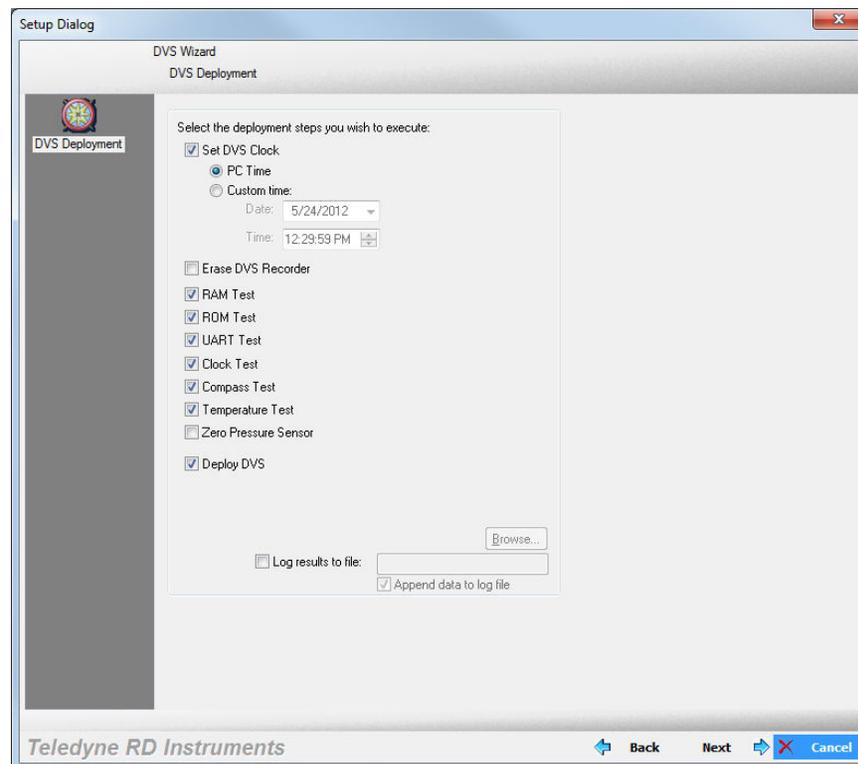

Figure 16. DVS Deployment Screen
3. Check the **Continue to deployment** checkbox and click **Next** to reach the **DVS Deployment** screen shown in Figure 16.